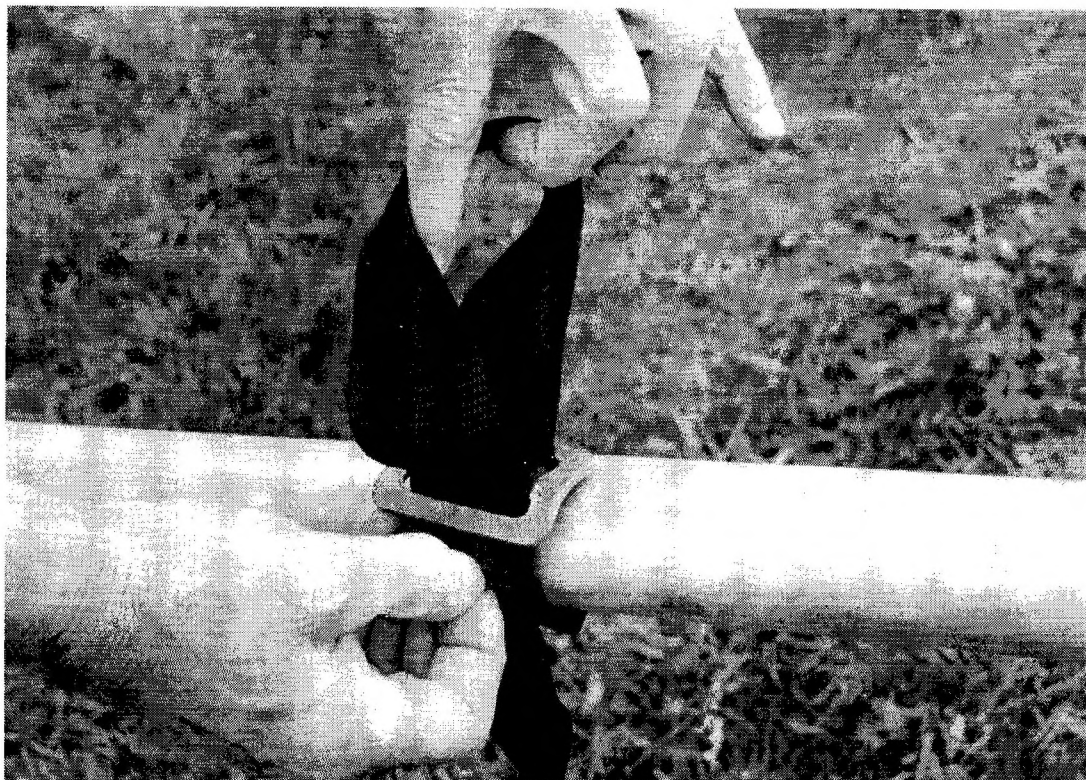

**Figure 7: Frame Layout**
18. Commence construction with the roof as detailed in Fig 7.
19. Tent poles should be fitted together to produce the roof framework with roof restraint straps attached. The frame should be assembled from one end and the poles inserted in sequence, this minimises stress on the frame Fig 7.
20. Fit strap, adjustable roof restraint (J11/8340-99-614-5444) (qty 2) Fig 8 to 15 and situate the strap as detailed in Fig 7. Ensure the straps are not twisted and the buckles are on the inside of the roof.